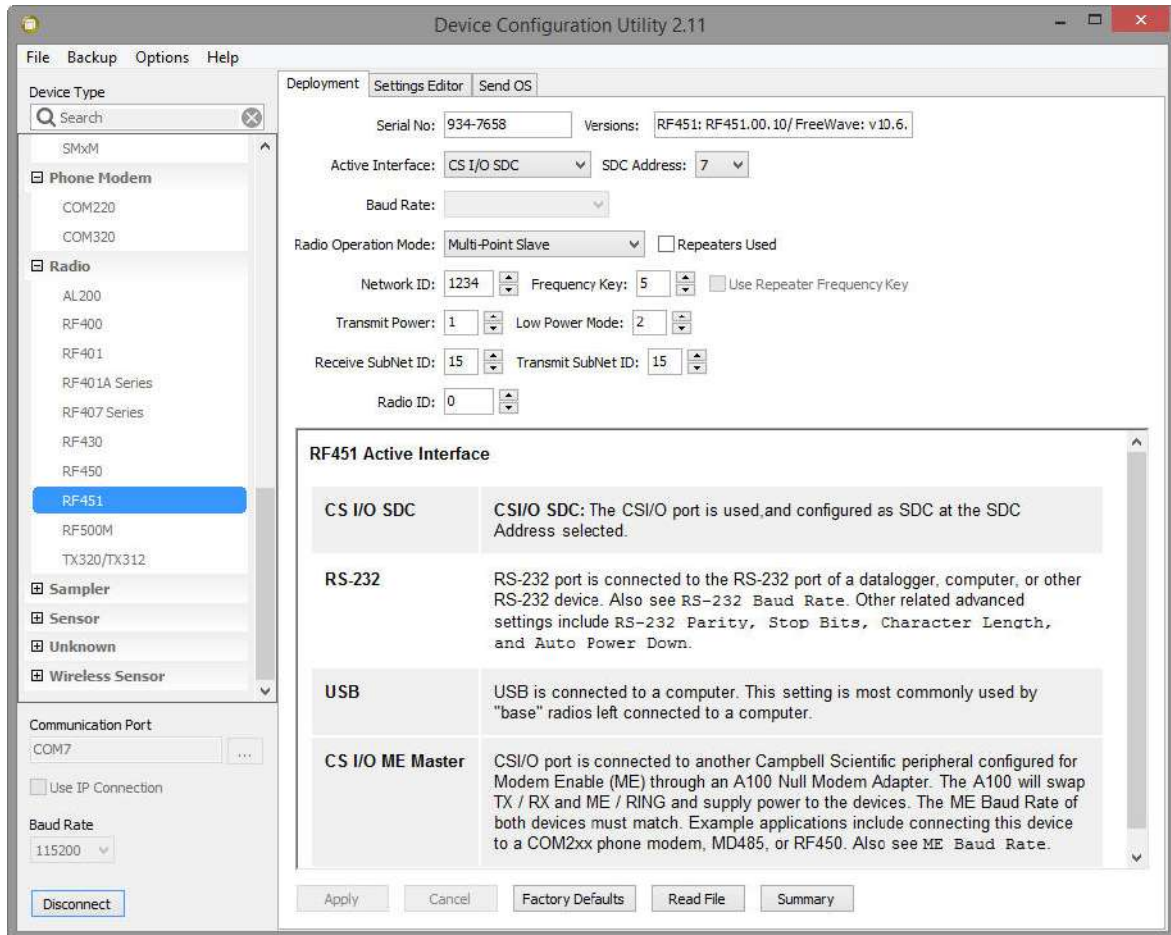

FIGURE 7-2. DevConfig Screen Showing the RF451 Settings
6. Click **Connect**. The radio **Status** LED will turn yellow. After several seconds, a screen similar to FIGURE 7-2 will appear:
This section describes the RF451 **Deployment** tab settings shown in FIGURE 7-2.